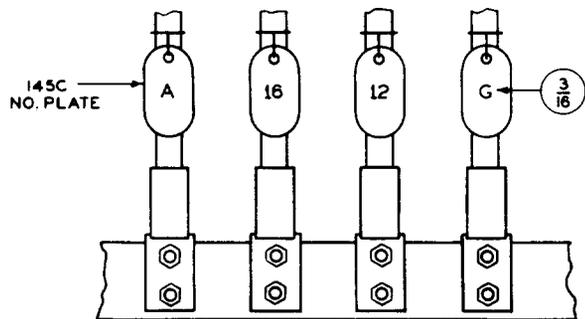
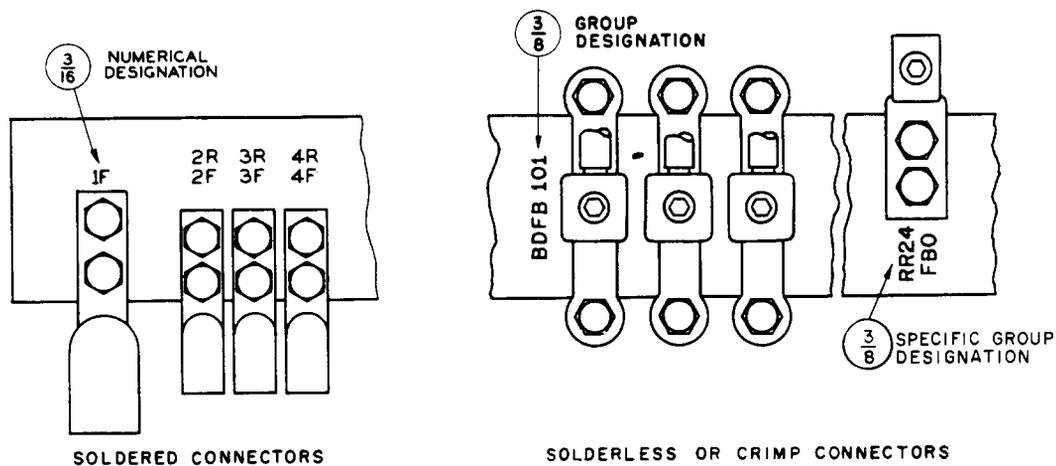

Fig. 13 - Cable Risers at Ground Bus Bar of Fuse Bays, Battery Distributing Fuseboards, MDF, CDF, or Protector Frames
Fig. 14 - Ground Bus Bar at Power Board
2.15 Where identification is not evident, leads terminated on battery ground bus bars and at the central office ground (with the exception of the →A lead) shall be designated with number plates as shown in Fig. 13 to agree with the designation shown on the circuit.
2.17 Where identification is not evident, designate leads at ground bus bars, other than those mentioned in 2.15 and 2.16, with a specific (if space permits) or a numerical designation as in Fig. 14 if the bus bar is of sufficient width. Where space is not available, place the stamping on the panel if the designation can be readily associated with the lead. In other cases, designate the lead with a number plate (see Fig. 13) to agree with the designation shown on the circuit. Multiple leads need not have different numbers.